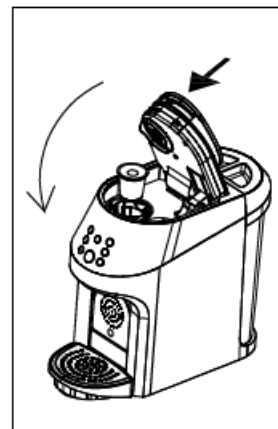

Fig.3
5. Close the Pod Brew Area. Pull the Top Ring Handle down to close (see Fig.3). Once secured, it will click. The unit will not begin the brew cycle unless this lid is fully closed.